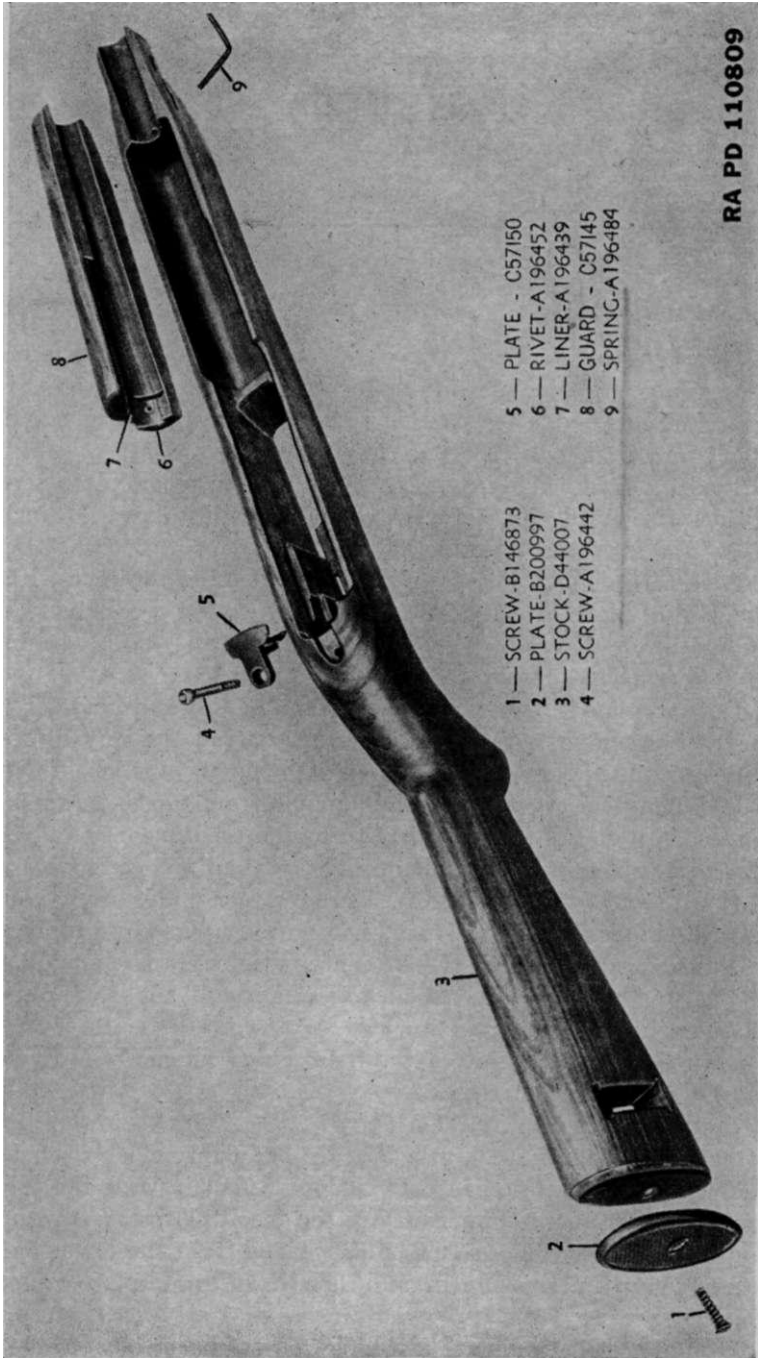
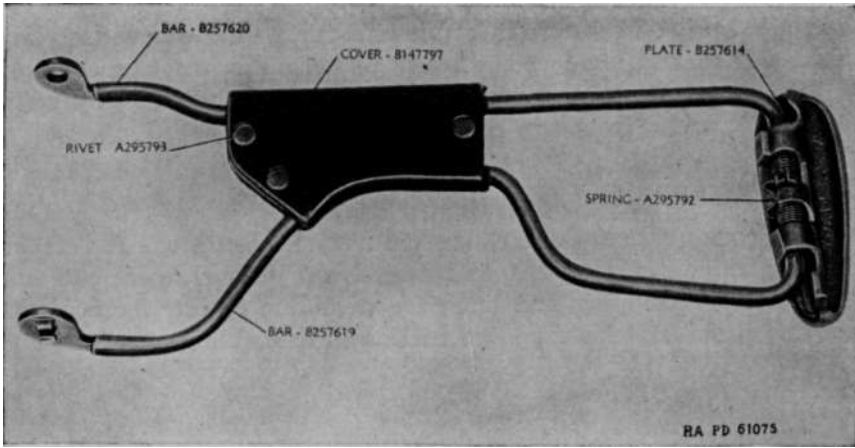
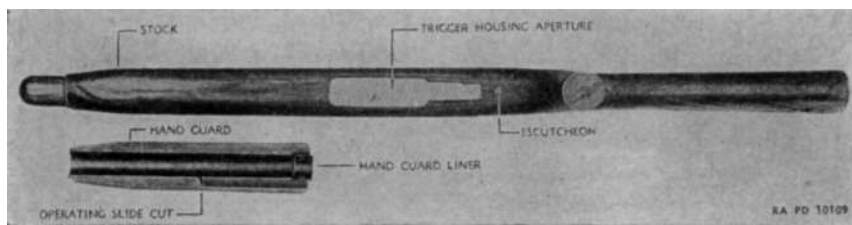

Figure 56. Stock and hand guard.
Figure 57. Stock extension — carbine, cal. .30, M1A1.
Figure 60. Stock and hand guard — carbine, cal. .30, M1.
a. FRONT BAND LOCKING SPRING. Insert small, straight punch in spring spindle hole in left side of forward end of stock and drive out front band locking spring part way, from left to right; then rotate spring and pull from hole. (See fig. 56.)
b. RECOIL PLATE (M1 AND M2). (1) Unscrew recoil plate screw counterclockwise until clear of escutcheon threads (above $\frac{3}{4}$ inch), then withdraw from stock and recoil plate.
(2) Loosen recoil plate by tapping lightly on rear top face with a metal tool. Pull plate directly forward out of seating recess in stock. Do not pull up or down, because rear seating lug on plate seats in a horizontal recess cut in the stock.
(3) Do not remove the escutcheon from the stock except for replacement. To remove, thread recoil plate screw all the way into escutcheon from the under side and pull escutcheon out of stock. If withdrawal is difficult, insert small straight punch from top of screw hole in stock and tap end of screw lightly to loosen escutcheon, or thread screw in from top, part way, and tap lightly; then proceed as above.
e. STOCK EXTENSION (M1A1) (fig. 57). (1) Remove lower hinge screw from lower end of stock grip by turning counterclockwise.
(2) Inspect butt plate for deformation, burs, fit, and looseness on stock. Check butt plate screw for looseness. Check threads in stock for stripping.
(3) Inspect recoil plate for looseness in stock, for burs, and for excessive wear and rust. (See fig. 56.) Check recoil plate screw for looseness in escutcheon (fig. 60), burs, and worn threads.
(4) Inspect escutcheon for looseness in stock, burs, or worn threads.
(5) Inspect front band locking spring for deformation and excessive wear of locking shoulder. Rear face of shoulder should be square enough to retain front band in position. (See fig. 56.)